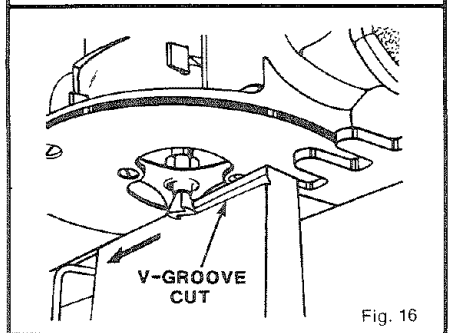

Fig. 16
1. Place your router so that the subbase is resting flat on the dovetail template. Make sure the cutter is not making contact with the edge of board (A), then turn your router on and let the motor build to its full speed.
2. Make a straight cut from **RIGHT TO LEFT** across board (A). See Figure 16. This shallow V-groove cut is made to prevent chipping of the wood when the router is moved in and out of the fingers of your dovetail template. **NOTE:** When making 1/4" dovetails, one or two extra passes may be necessary to cut away excess stock projecting beyond the fingers of the template.
2. Make a straight cut from **RIGHT TO LEFT** across board (A). See Figure 16. This shallow V-groove cut is made to prevent chipping of the wood when the router is moved in and out of the fingers of your dovetail template.